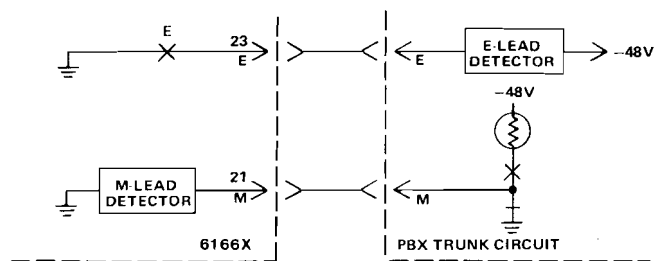

figure 3. DX1/Type I E&M signaling (TL31M or TC31M)
2.06 Figures 3 through 7 show the various applications listed in table 2. Either Type I, II, or III E&M signaling interface can be switch-selected. Type I is often used with electromechanical switching sys-